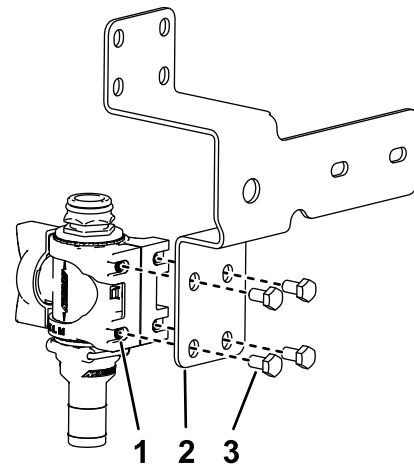

**Figure 38**
9. Secure the control-valve assembly to the T-fitting with a retainer as shown in Figure 38.